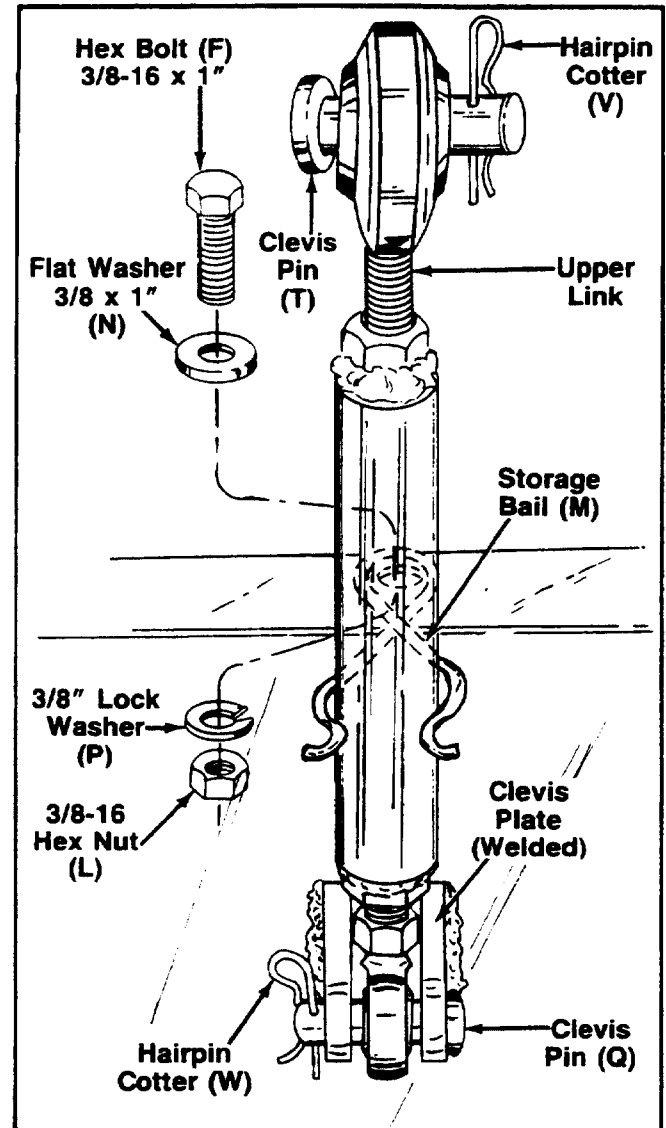

FIGURE 37.
48. Attach upper link storage bail to draw bar support plate. Use 3/8 x 1" bolt (F), flat washer (N), lock washer (P) and hex nut (L). See figure 37.
49. Attach upper link to draw bar support plate at the upper link clevis plate. See figure 37. Secure with clevis pin (Q) and hairpin cotter (W).
51. Install clevis pin (T) and hairpin cotter (V) as shown in figure 37, to be used with attachments.
The upper link is adjustable to provide a way to level an implement. Turn upper link ball counterclockwise to shorten the link or clockwise to lengthen the link. When the hitch is not in use the upper link should be placed in the storage bail. See figure 37.